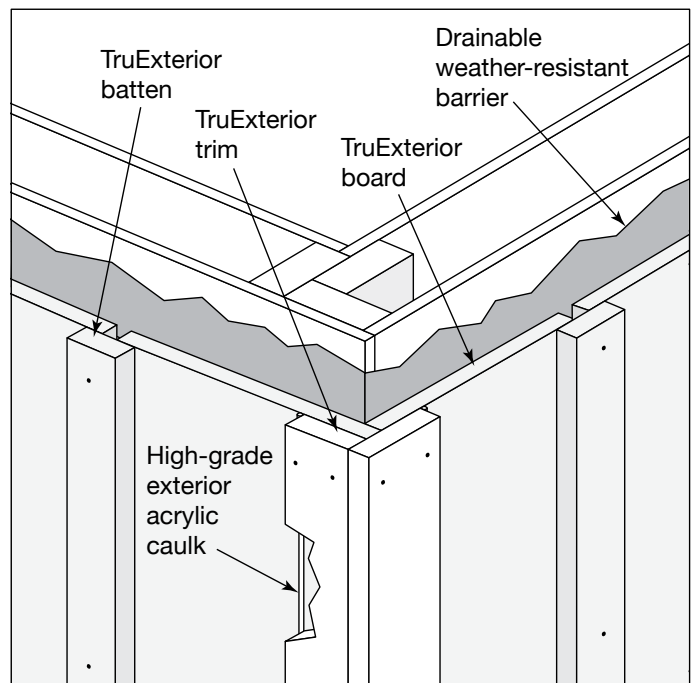

Fig. 9
- Typical outside corners are created using 1"x5" and 1"x6" trim, installed using approved fasteners (**Fig. 9**).
- Secure each trim piece on top of the boards with 2 nails every 16" along the length of each piece of trim (**Fig. 9**).
- Seal the joint between the outside corner trim and the siding with high-grade, exterior acrylic caulk (**Fig. 9**).